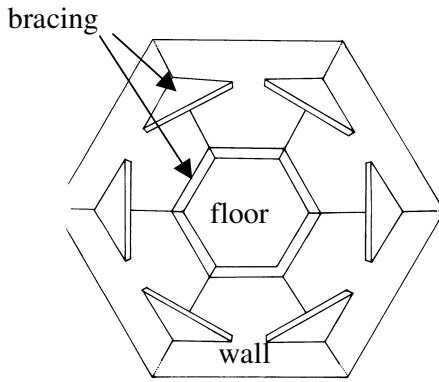

Fig. 6. Transverse section through hexagonal nest box showing bracing at base and halfway up box. Note top bracing (not illustrated) as per base.
Step 3. Fit walls to base and secure with internal bracing (see Fig. 6)